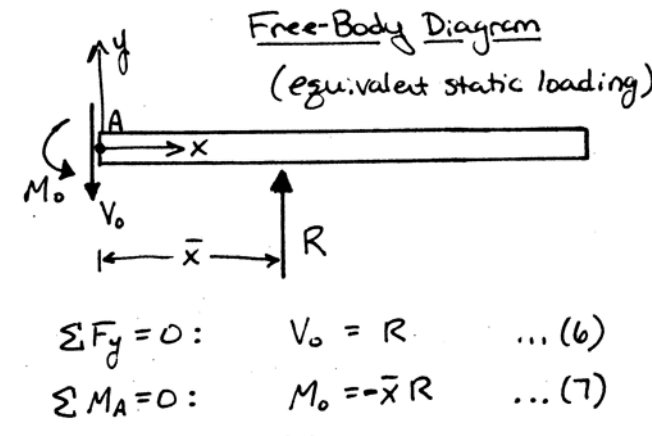

Figure 4. Free-body diagram with equivalent static loading and Equations (6) and (7).
- 3B. Evaluate Equations (1) to (3) to determine the values of the lift, engine weight, and structure/fuel load at each location in the previous vector using element by element math.
- 3C. Compute the total load exerted on the main spar at these locations via Equation (8).
- 3D. Determine the resultant load  $R$  by first determining the area of each rectangle inscribed in the area under the total load graph and then summing them together. This provides an approximate to the integral given by Equation (9).
- 3E. Now find the centroid of the total load distribution via Equation (10). To do this using element by element math, multiply the vector of  $x$  locations onto the vector of total loading evaluated at those locations determined in 3C. Next multiply this new vector by the width of the inscribed rectangles. After summing elements of the resulting vector, dividing by  $R$  yields the centroid.
5. Compute shear force  $V_o$  and the bending moment  $M_o$  using Equations (6) and (7). These equations are given in Figure 4. Do NOT suppress command window output.
6. Determine the shear stress  $\tau_o$  and bending stress  $\sigma_o$  via Equations (4) and (5), respectively. Note that  $c = -0.5h_o$ . Suppress output to the command window.